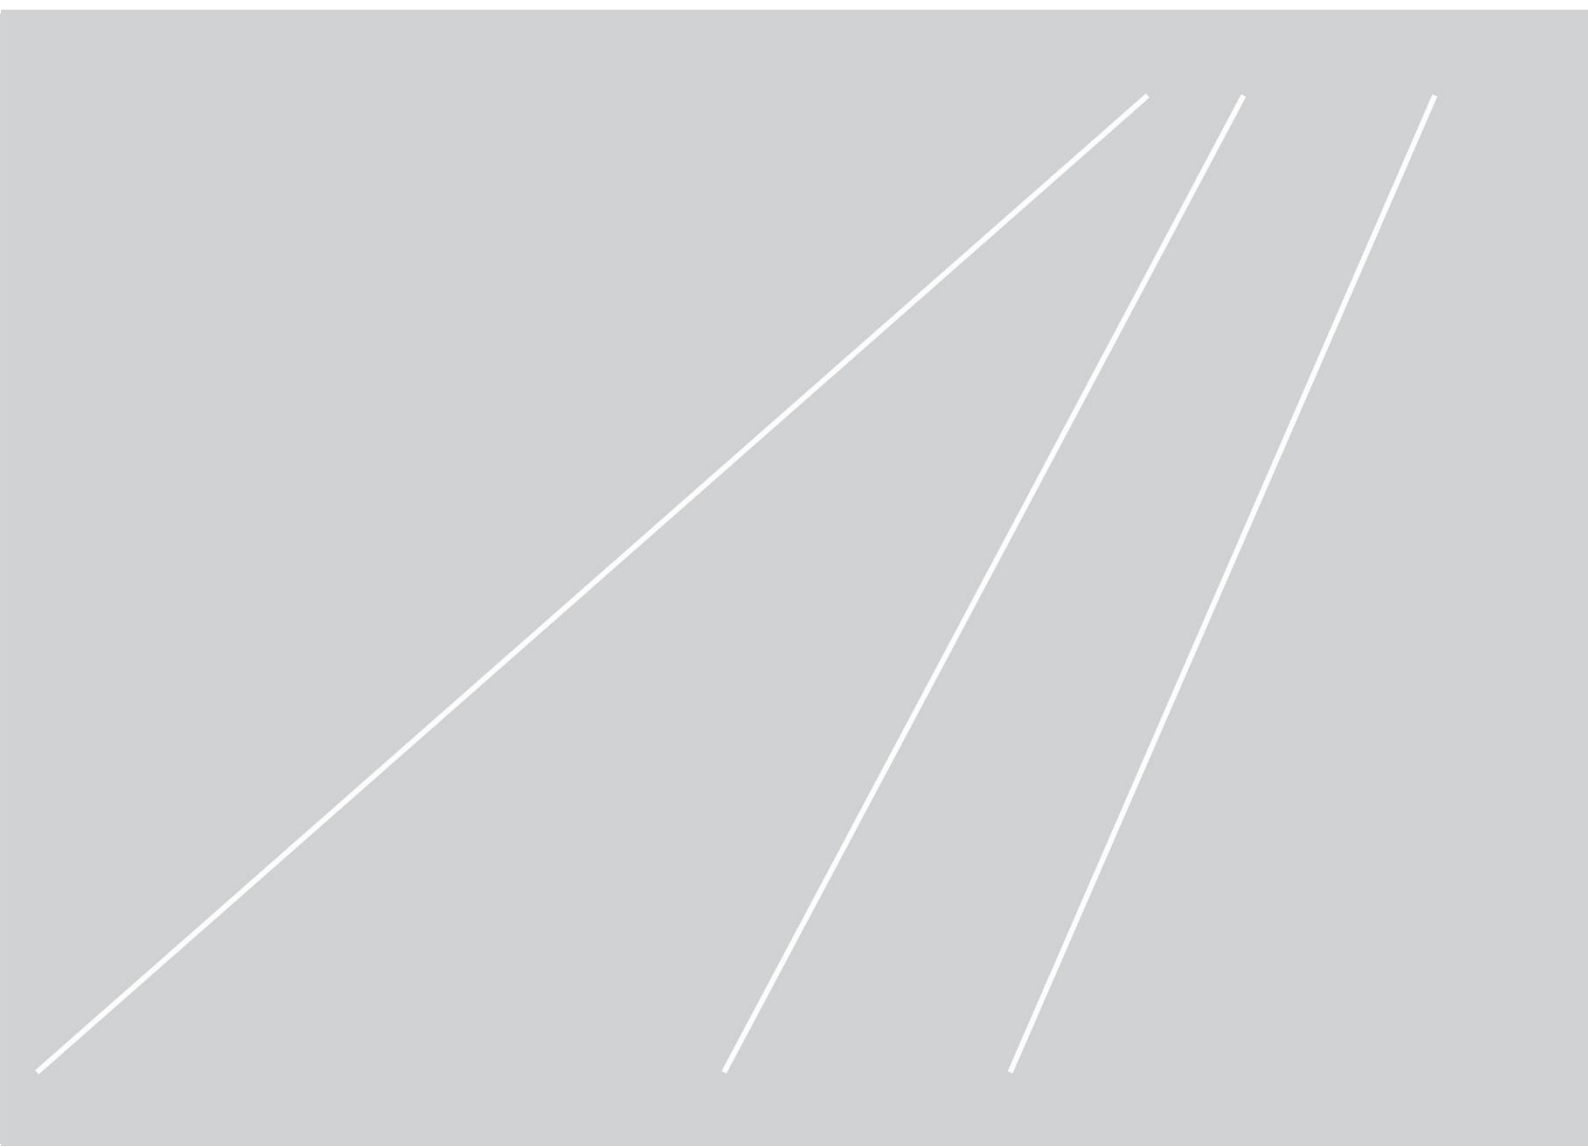

**Figure 4-8 CG position**
- 2) Use Table 4-7 and Figure 4-8 to determine the center of gravity of the machine.